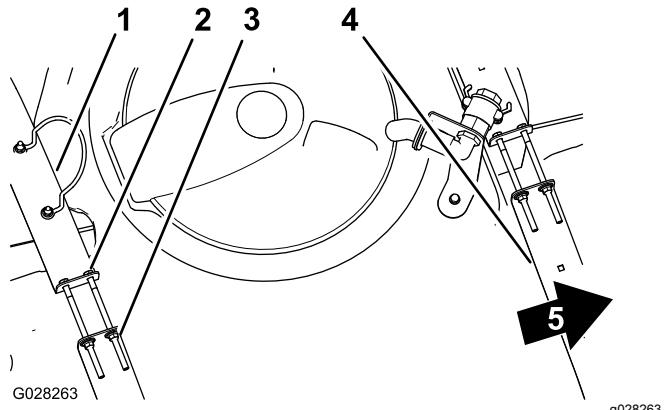

Figure 78
2. Check to see if there is any movement between the tank straps and the tank (Figure 78).
3. If the tank straps fit loose to the tank, tighten the flanged locknuts and bolts at the top of straps until the straps are flush with the surface of the tank (Figure 78).